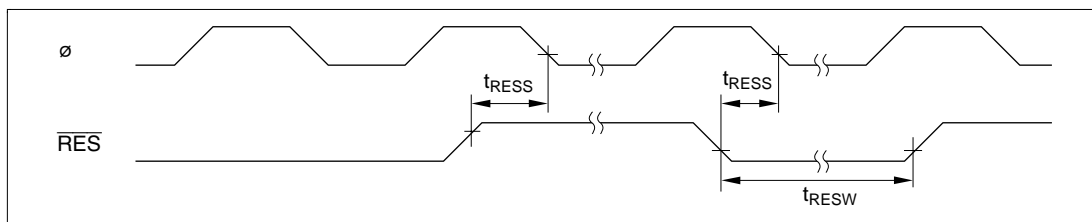

Figure 23.9 Reset Input Timing
23.5.2 Control Signal Timing	Figures 23.9 to 23.12